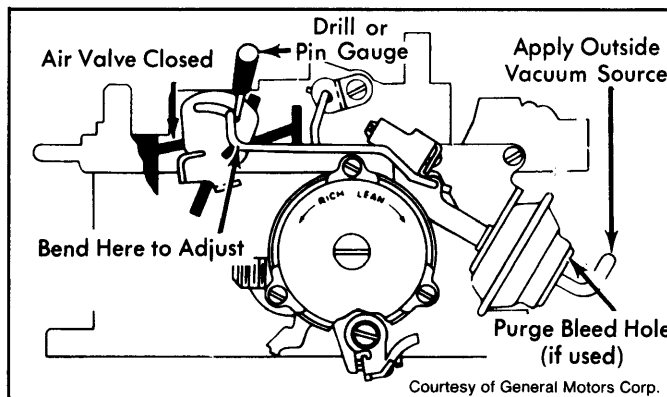

Fig. 6: Adjusting Front Air Valve Rod
- Front** - 1) Using an outside vacuum source, seat primary (front) choke vacuum break diaphragm. Plug purge bleed hole (if equipped) with masking tape. Hole is found in end of diaphragm. See Fig. 6.